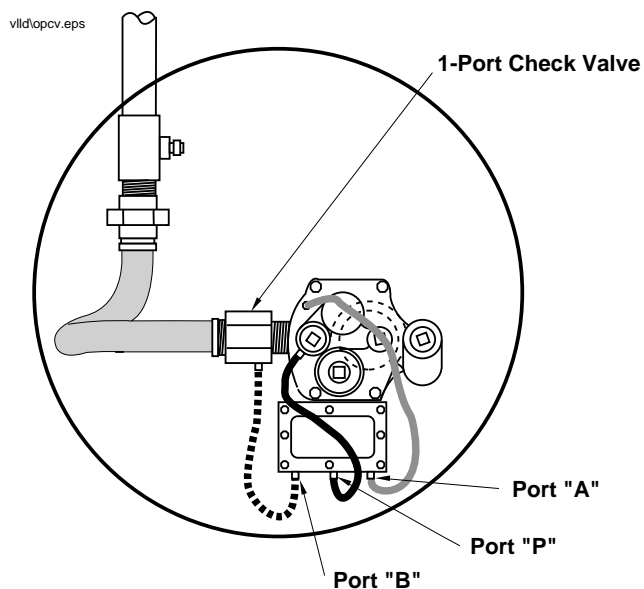

Figure 6. One-Port Check Valve
- ☐ One-port check valve with one tubing connection to the controller and two to the STP [Figure 6 on page 10]